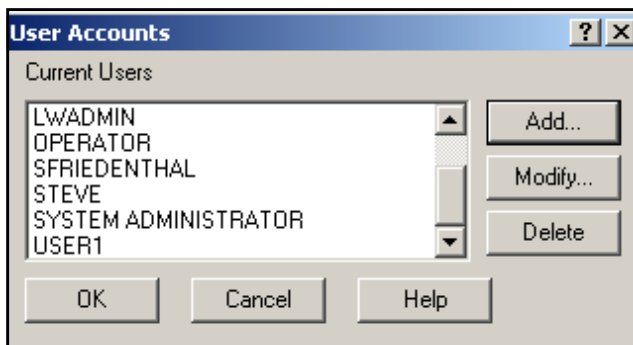

Figure 22: User Accounts Window
- From the Security Configuration window, go to the **Edit** menu, and click on **User Accounts**. The User Accounts window (Figure 22 below) opens.
2. From the Security Configuration window, go to the **Edit** menu, and click on **User Accounts** (Figure 22 on page 35).